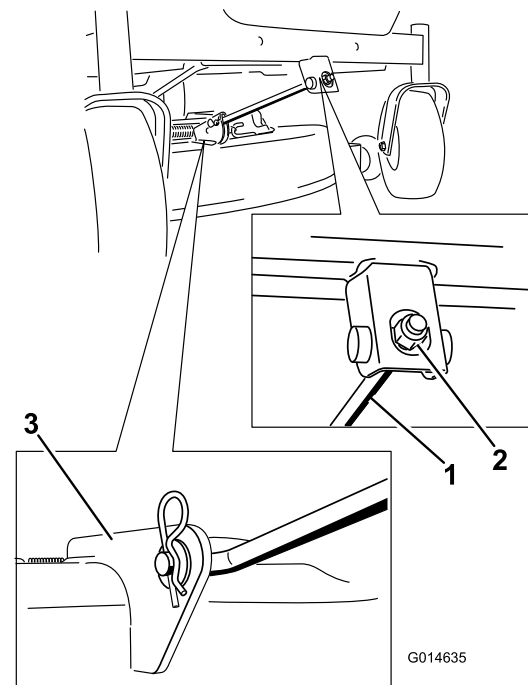

Figure 69
5. Remove the hairpin cotter from the front support rod, and remove the rod from the deck bracket (Figure 69).
8. Attach the front support rod to the mower deck with the clevis pin and hairpin cotter (Figure 69).